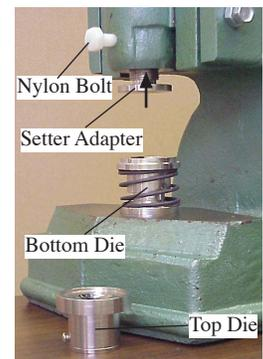

Figure 2
2. Lift the Moving Head to the top position and loosen the Nylon Bolt on the Moving Head. Screw the Setter Adapter completely into the Moving Head, put the Bottom Die at the base of the Press and the Top Die upside down on your work table as shown in Figure 2.